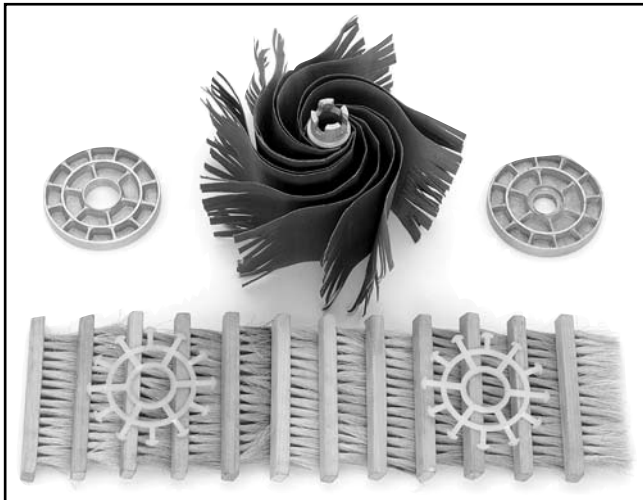

Figure 24. Flap sander components.
The flap sander is comprised of many pieces. When the sanding surfaces of the flap sander begin to wear, they can be adjusted to reveal a fresh sanding surface. **Figure 24** shows the components of the flap sander.
3. Remove the flap sander from the arbor and disassemble it down to the components shown in **Figure 24**.
5. Cut approximately (15) 2" slits into the end of each flap.